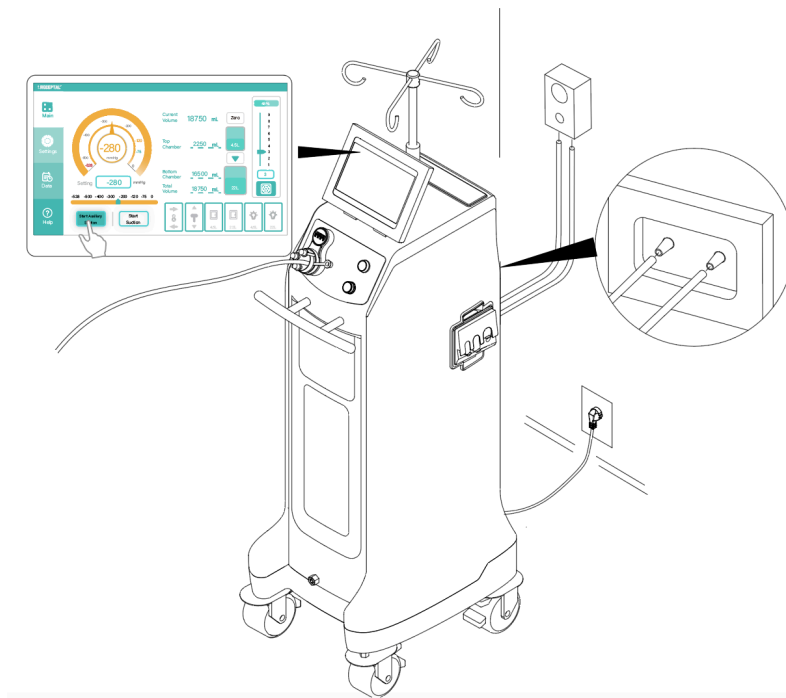

Figure 41 To Connect Auxiliary Suction Ports and start Auxiliary suction
6. Tap the "Auxiliary Suction Port" on the touch screen to have the rover to second control the suction level (Figure 41).